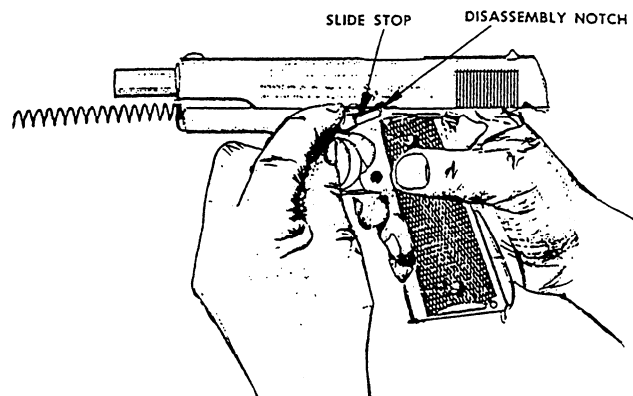
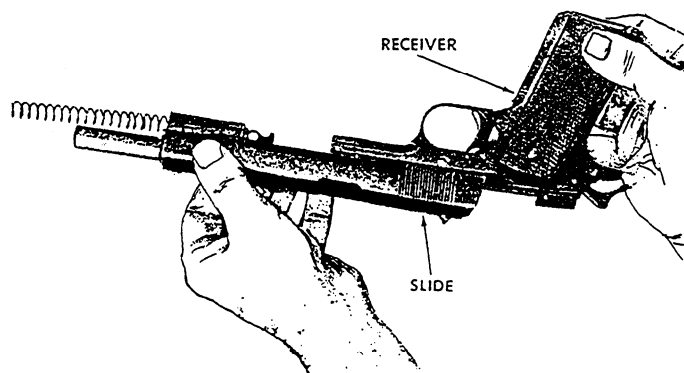
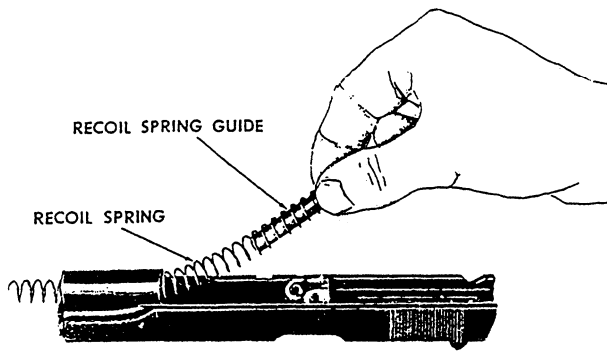

Figure 3-32.—Slide stop removal.
Figure 3-33.—Separating the receiver from the slide by pulling the receiver rearward.
Figure 3-34.—Recoil spring guide and recoil spring removal.
3. Press the thumb safety lock downward to the FIRE position. Push the slide to the rear until the disassembly notch, as shown in figure 3-32, is aligned with the rear projection on the slide stop. Press the protruding end of the slide stop, and then pull out the slide stop.
4. Pull the receiver rearward to separate it from the slide, as shown in figure 3-33.
5. Remove the recoil spring guide and recoil spring, as shown in figure 3-34. Separate the two parts with a twisting action.
3. RECOIL SPRING AND RECOIL SPRING GUIDE. Insert the recoil spring guide into the tightest end of the recoil spring. Replace these parts in the slide. (See fig. 3-34.) Be sure the concave cut on the recoil spring guide collar is properly seated in the barrel. Push the barrel, recoil spring, and recoil spring guide frilly forward in the slide, ensuring that the barrel link is positioned forward and rests against the hole in the recoil spring guide. (See fig. 3-33.)
4. **ASSEMBLING THE RECEIVER GROUP TO THE SLIDE GROUP.** Hold the slide with the sights down in the palm of one hand. Invert the receiver (the safety lock must be in the FIRE position) and engage the guide rails of the receiver in the grooves of the slide. (See fig. 3-33.) Push the receiver all the way forward on the slide with a quick motion.
5. **SLIDE STOP.** Hold the pistol as shown in figure 3-33. Look through the slide stop pinhole in the receiver for alignment of this hole with the hole in the barrel link. If the holes are not aligned, move the muzzle end of the barrel forward or rearward to align them. Insert the slide stop pin into the holes. Move the slide forward until the disassembly notch is over the square hole in the left side of the receiver. (See fig. 3-32.) Press the slide stop up and in to seat it fully. In some cases, a punch may be required to depress the slide stop plunger in order to seat the slide stop fully.